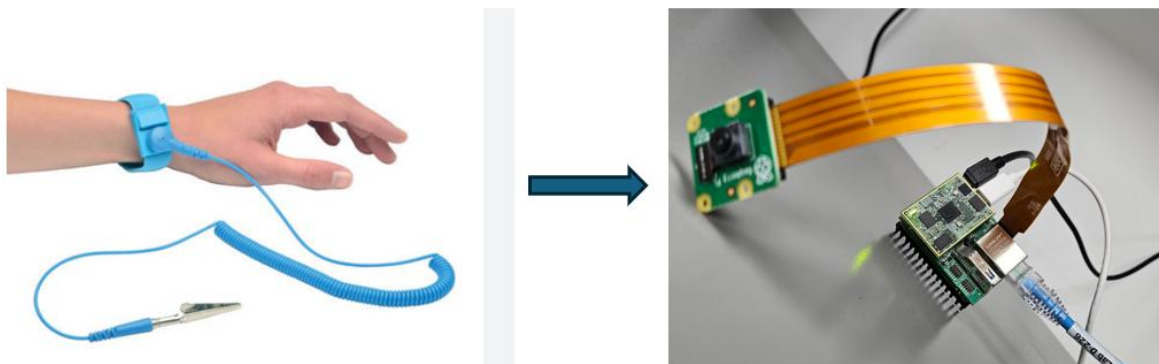

Figure 19.1. ESD Precaution
1. Always wear an ESD wrist strap during assembly and disassembly activities (Figure 19.1).